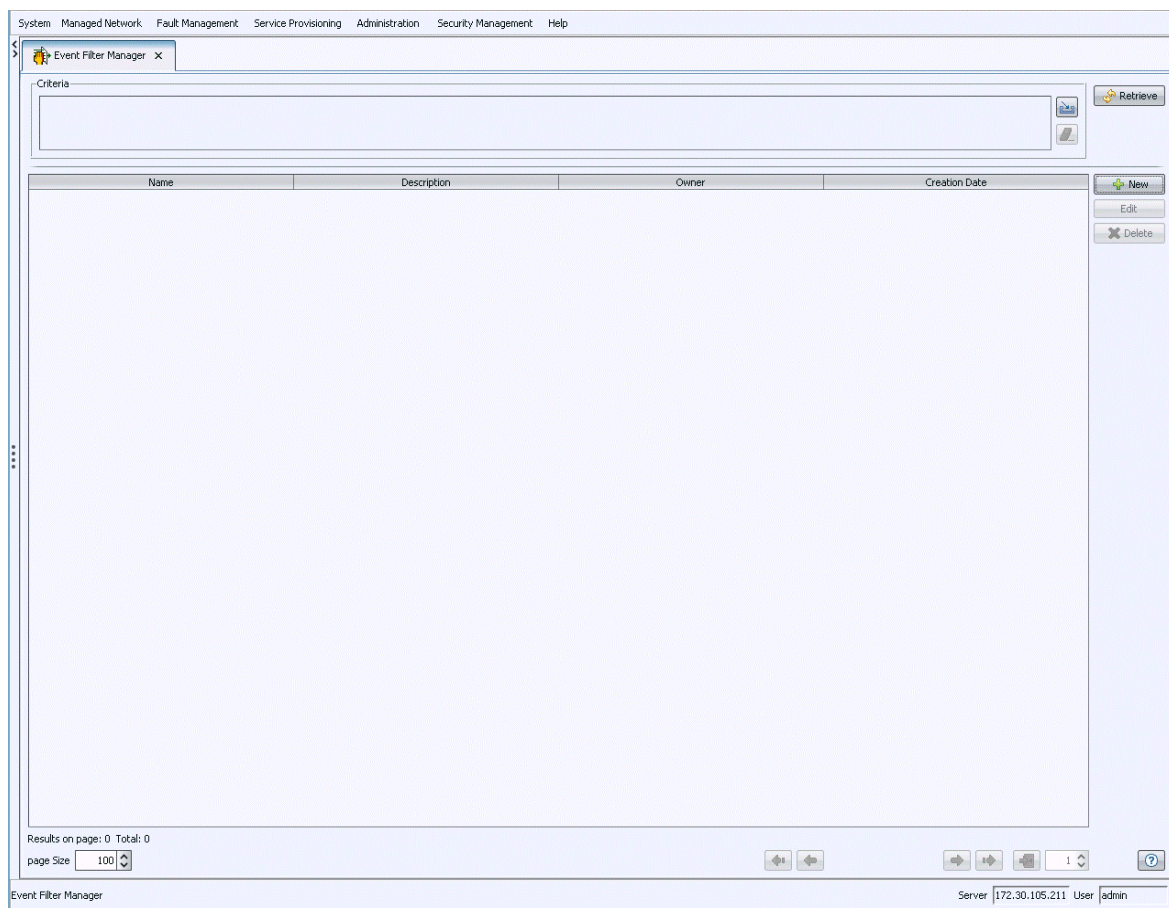

Figure 3-8: Event Filters Manager - Criteria
- 1 From the Event Filter window (Figure 3-8), click **New** to define a new event filter. The Event Filter Editor window is displayed.
- 1 From the Criteria Window (Figure 3-8), select an existing filter from the list and click **Edit**. The Event Filter Editor window is displayed:
- 1 In the Criteria window (Figure 3-8), select the filter to remove and click **Delete**. A confirmation message is displayed.